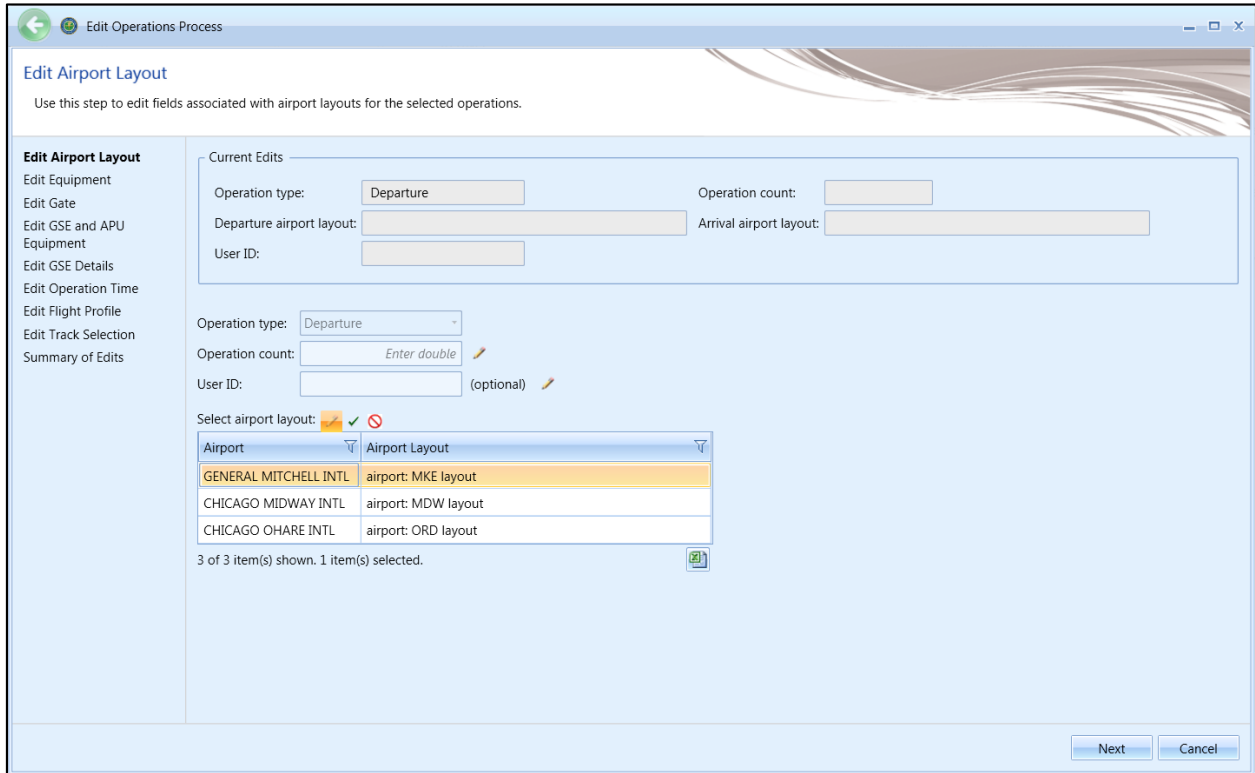

Figure 6-20 Bulk Aircraft Operations Edit
3. In the *Aircraft Actions* ribbon group, click *Edit* to open the *Edit Operations Process* wizard (Figure 6-20).